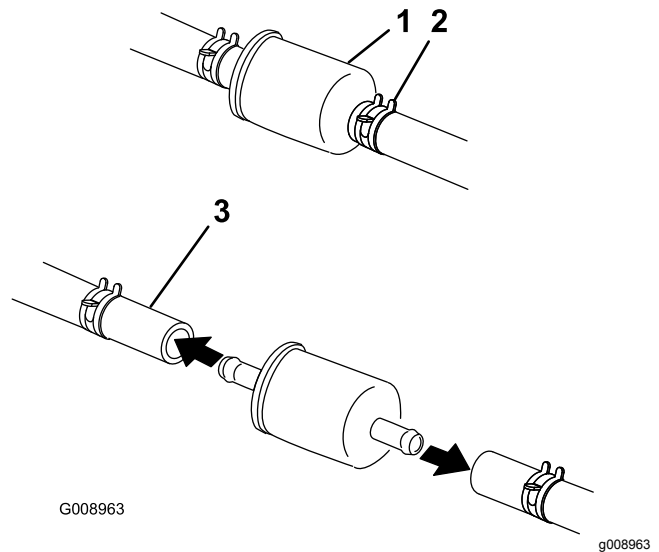

Figure 65
6. Squeeze the ends of the hose clamps together and slide them away from the filter (Figure 65).
8. Install a new filter and move the hose clamps close to the filter (Figure 65).